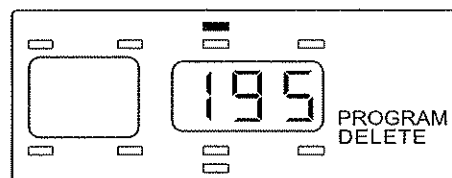

Figure 2-21
1. Using the arrow keys select the desired sensor that need to be deleted. The monitor will only display the wheel positions that have a sensor programmed to that position. When you select a position the three-digit number that was programmed will be displayed so you will be able to verify that this is the correct serial number to delete (see Figure 2-21).